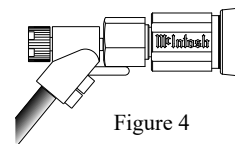

Figure 4
- Referring to figure 4, connect the Loudspeaker hookup cables with banana plugs into the hole at the end of the ML1 LOW Negative (-) and Positive (+) Input Terminals. Then connect cables to the ML1 HIGH/MID Negative (-) and Positive (+) Input Terminals.